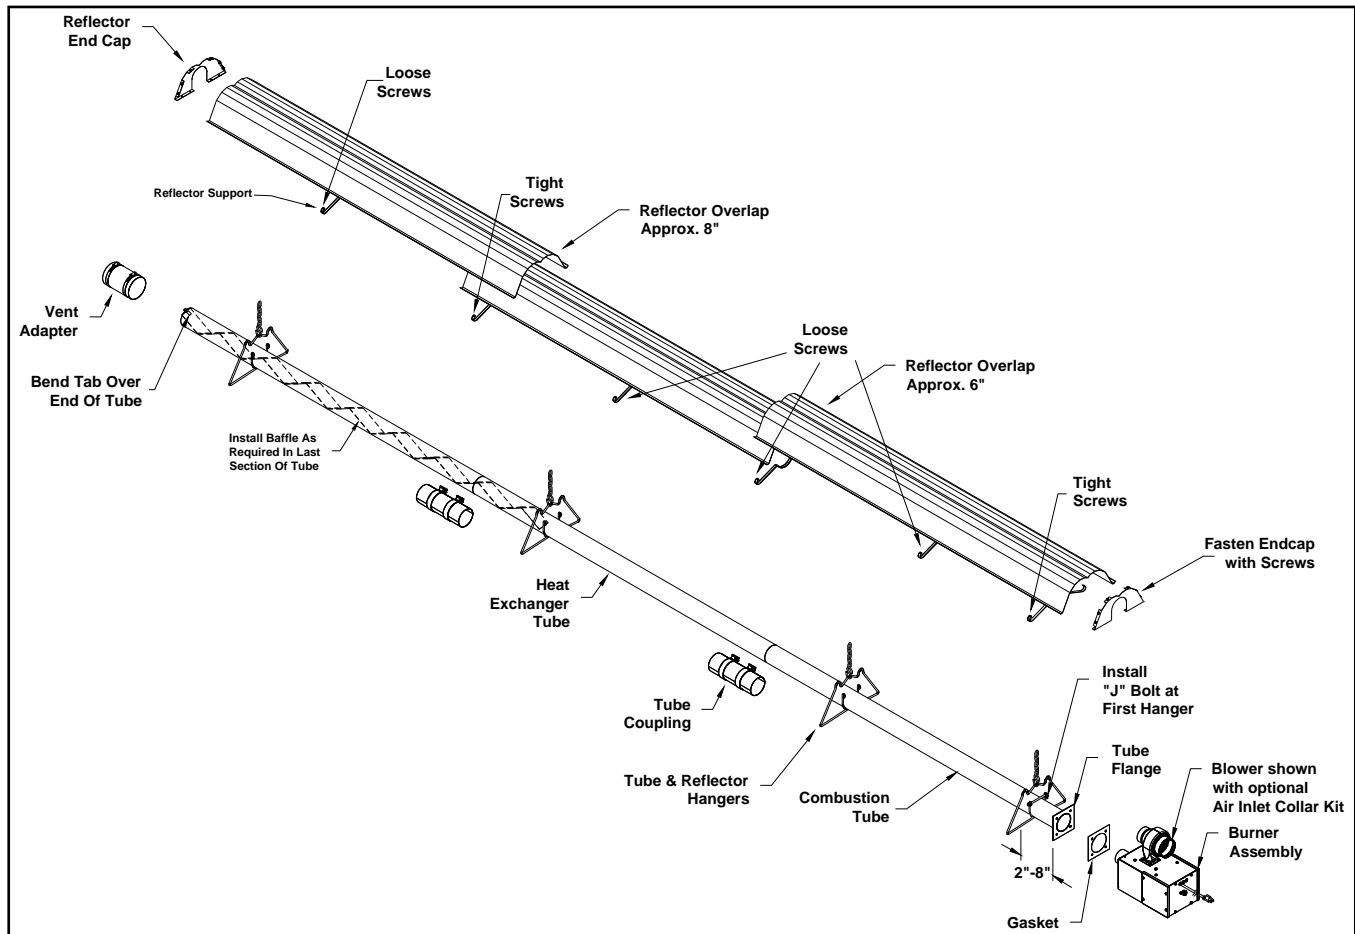
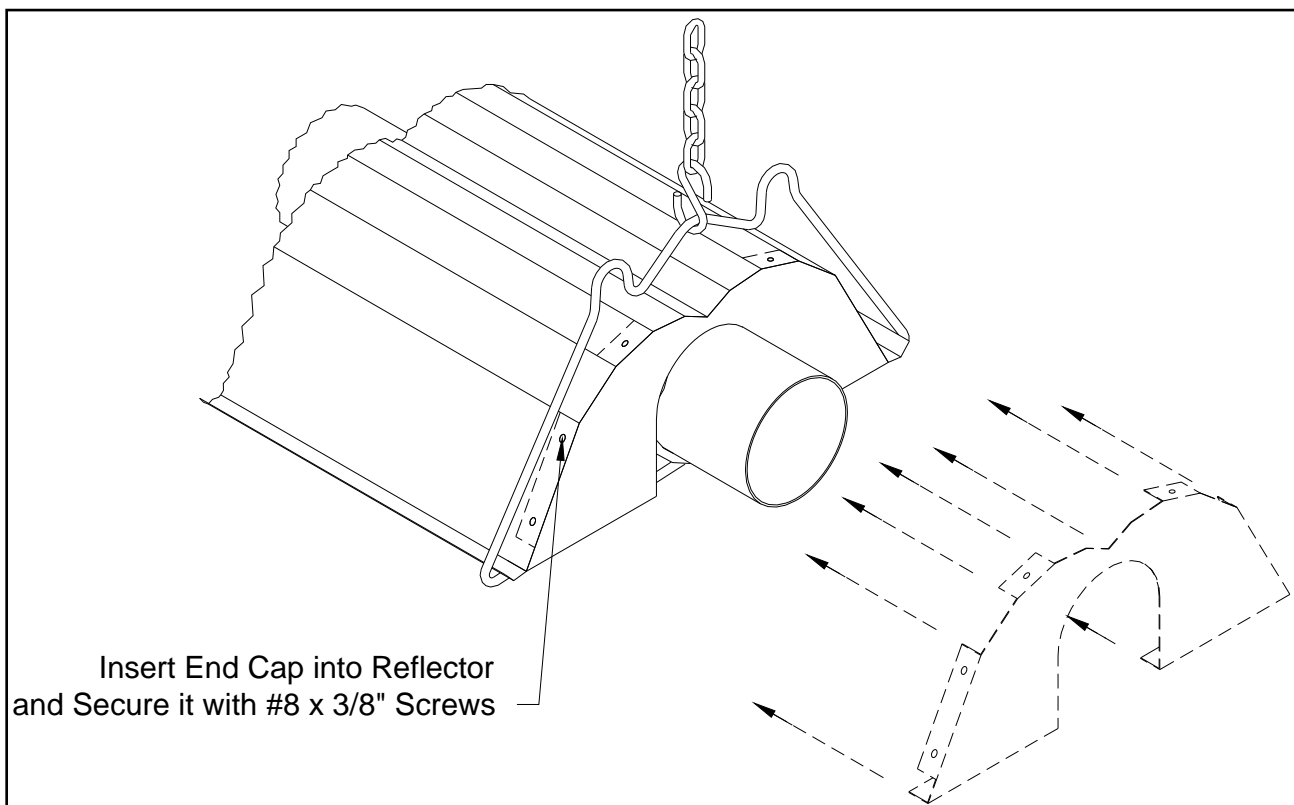

Figure 4: General Overview of Installation
Figure 17: Reflector End Cap Installation
Generally, there is no unique sequence for installation of the burner or heat exchanger. A review of the job site will usually indicate a logical installation order. However, time and expense can be saved if installation is begun at the most critical dimension, watching for interference from overhead doors, cranes, auto lifts, etc. Figure 4 provides a general overview of the components utilized in the installation, as well as their general relationship.
- Install End Cap as shown in Figure 4 and Figure 17.